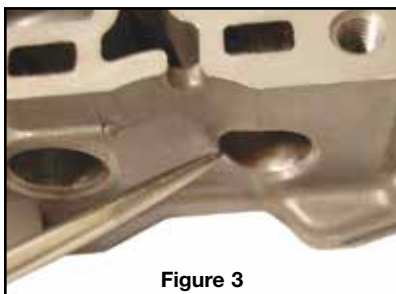

Figure 3
- c. Use deburring tool or bearing scraper to complete the .020" to .030" wide chamfer all the way around the bore edge where the valve body contour may have caused the factory chamfer to be less than a full circle (**Figure 3**).